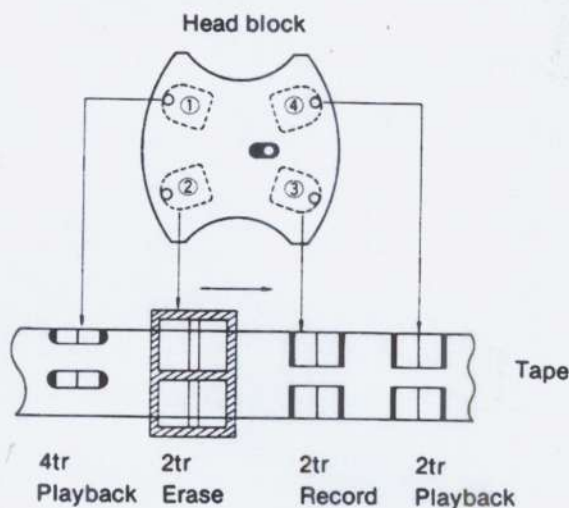

Fig. 42
First use the height-adjustment screw (A) to adjust so that the tape-to-head relationship are, as visually estimated, approximately as shown in figure 42.